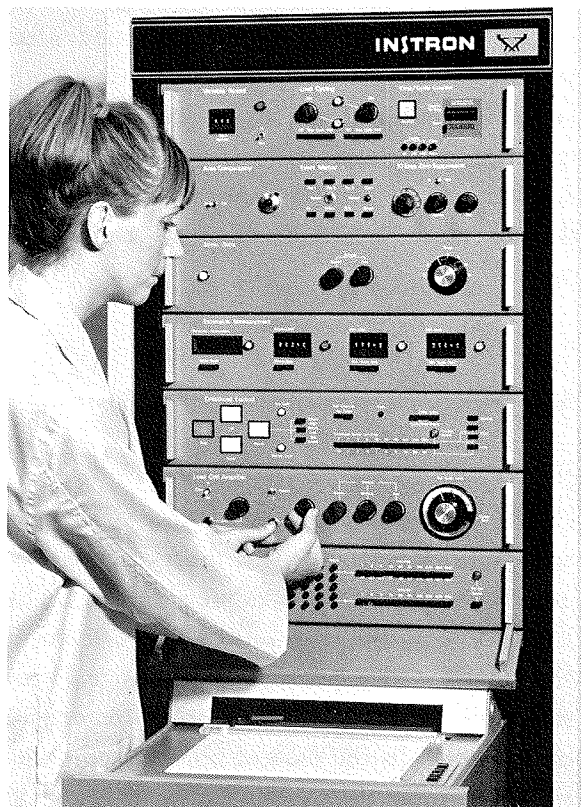

Figure 6-3. Calibrating the Load Weighing System
- c. Unlock CALIBRATION control. Depress and hold CALIBRATION pushbutton (figure 6-3). Adjust CALIBRATION control until recorder pen is set to full scale on chart. Lock CALIBRATION control. Release CALIBRATION pushbutton and note that pen returns to reference zero. Load weighing system is now calibrated for all ranges of load cell in use.